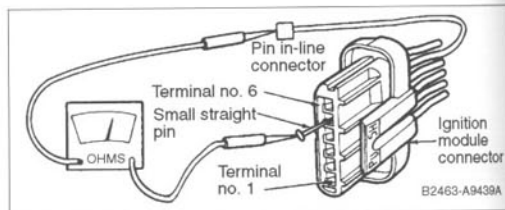

Fig. 4-3. Checking wiring continuity of SPOUT circuit.
7. If not, check the wiring to the TFI module. See Fig. 4-3.